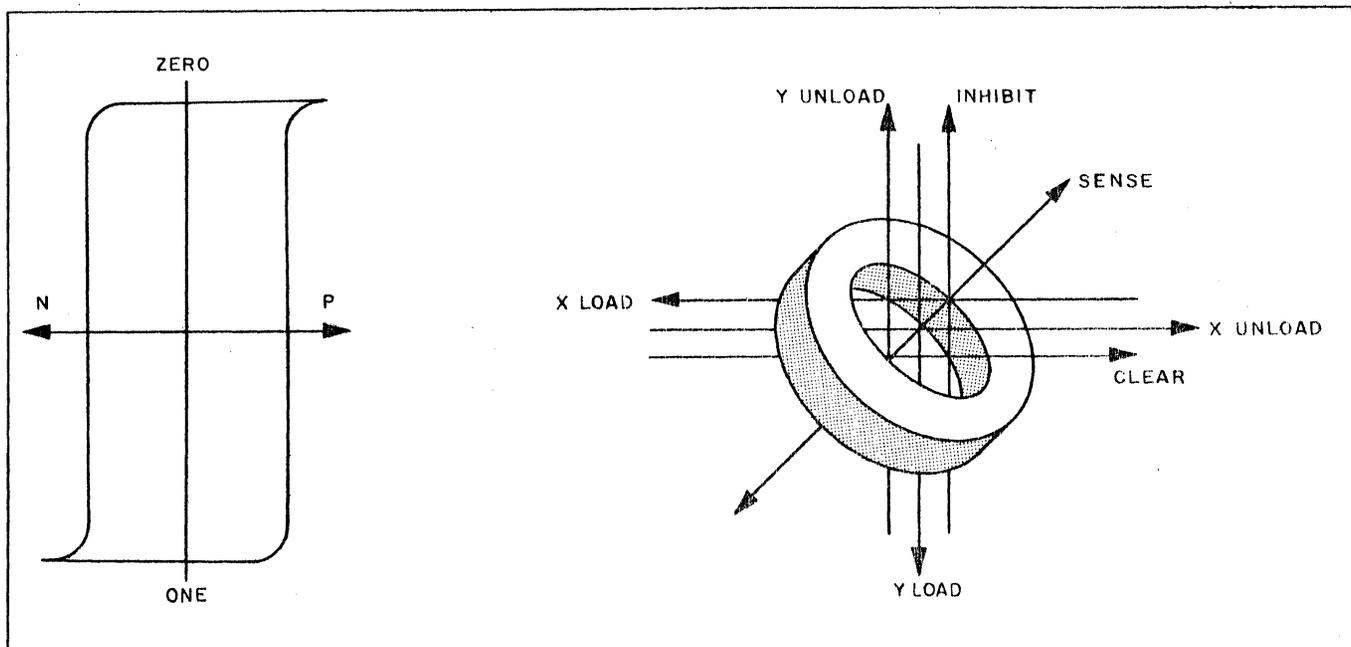

Figure 4-8. Storage Core Hysteresis Loop and Core Windings
4-60. CORE PROPERTIES. (See Figure 4-8). The storage property of the ferrite core lies in the fact that it will remain
magnetized indefinitely in one of two possible states. These states are the directions of magnetization shown by the hysteresis loop of Figure 4-8. Current from one direction (P) drives the core into one state of magnetization. Pulses of the opposite direction (N) drive the core into the opposite state of magnetization. The core will remain in either state until it is subjected to a magnetomotive force of sufficient strength and of the correct polarity to reverse the magnetization of the core.
4-62. CORE WINDINGS. (See Figure 4-8). Several windings pass through each core. The X and Y windings are driven by the magnetic stepping switches to provide coincident currents at selected cores. The clear winding carries the full switching current in a direction which switches all the cores to the ZERO